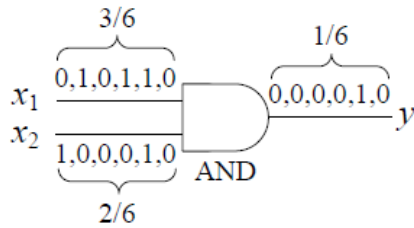
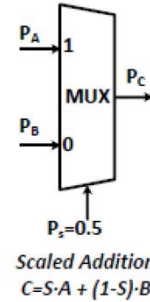

Figure 1. Multiplication in Stochastic Logic
Figure 2. Scaled Addition
2. Fast computation in specific applications. While the stochastic creates more bits than traditional logics, in some cases it will be faster by taking advantage of statistic concept. For example in Figure 1, the multiplication  $y = x_1 \cdot x_2$  is directly computed by using a simple AND gate. Another example is scaled addition shown in Figure 2. Using a single MUX, the stochastic logic can perform a weighted average easily.